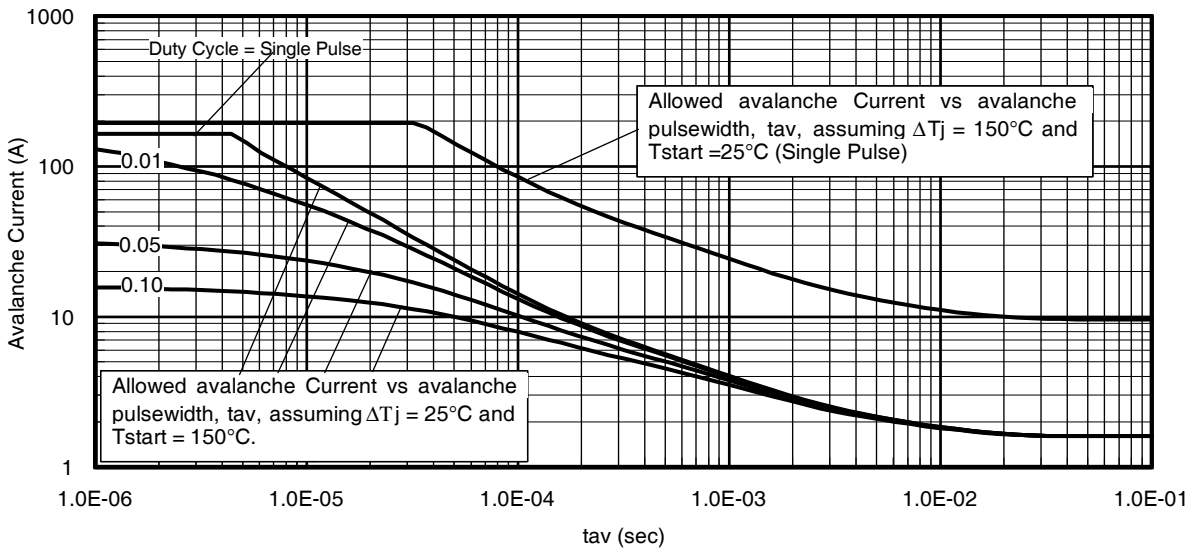

Fig 14. Typical Avalanche Current vs. Pulsewidth
- ④ I_{SD} ≤ 165A, di/dt ≤ 430A/μs, V_{DD} ≤ V_{(BR)DSS}, T_J ≤ 175°C.
- ⑤ Pulse width ≤ 400μs; duty cycle ≤ 2%.
- ⑥ C_{oss} eff. (TR) is a fixed capacitance that gives the same charging time as C_{oss} while V_{DS} is rising from 0 to 80% V_{DSS}.
- ⑦ C_{oss} eff. (ER) is a fixed capacitance that gives the same energy as C_{oss} while V_{DS} is rising from 0 to 80% V_{DSS}.
- ⑧ When mounted on 1" square PCB (FR-4 or G-10 Material). For recommended footprint and soldering technique refer to application note # AN-994.
- ⑨ R_θ is measured at T_J approximately 90°C.
- ⑩ Limited by T_{Jmax}, see Fig. 14, 15, 22a, 22b for typical repetitive avalanche performance.
- ⑪ R_{θJC} value shown is at time zero.
Notes on Repetitive Avalanche Curves, Figures 14, 15:
7. ΔT = Allowable rise in junction temperature, not to exceed T_{jmax} (assumed as 25°C in Figure 14, 15).